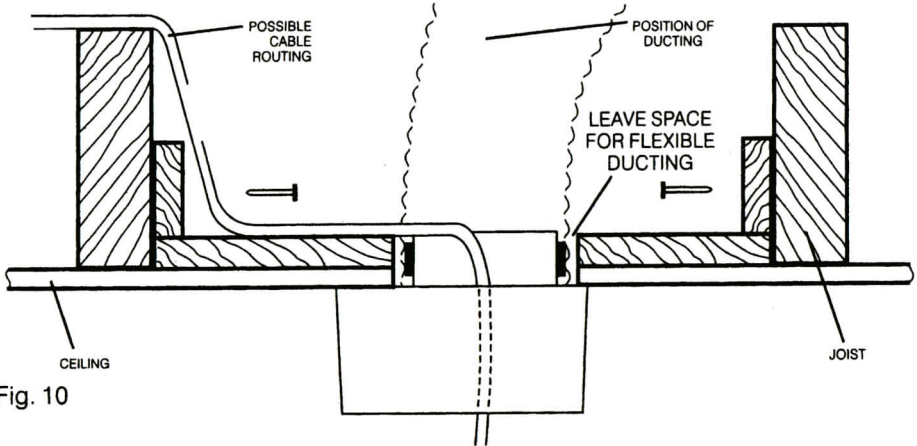

Fig. 10
**7.1** Make a support to fit between the joists as shown (see Fig. 10). Mark the positions and sizes of the holes for the exhaust and cable entry and the hole centres for fixing the backplate using the template provided, which must be broken out along the perforations of the carton insert.